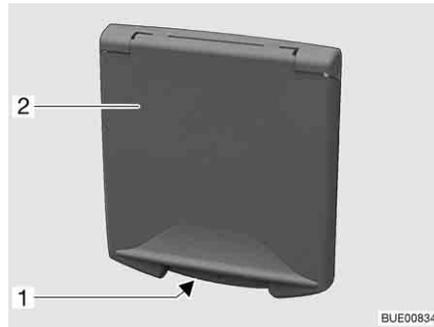

Fig. 51 Push-button lock service flap
- Insert the key into locking cylinder of the lockable push-button lock (Fig. 51,1) and turn a quarter turn. The push-button lock is unlatched.
- Insert the key into locking cylinder of the lockable push-button lock (Fig. 51,1) and turn a quarter turn. The push-button lock is locked.